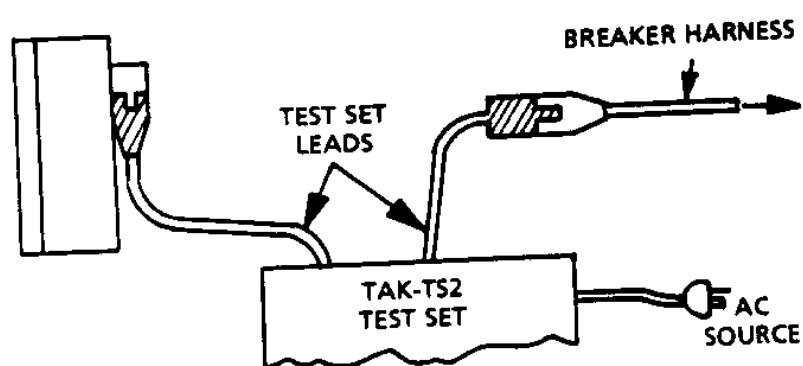

Fig. 4. Connection for Complete System test
3. The test set male connector lead need not be connected to the breaker harness for "Programmer Only" testing. However, the Fig. 4 connection should be used if "Complete System" tests are to be run also.
#### "Complete System" Test — Mode "B" (See Fig. 4)
Circuit breaker types TPSS, THSS have an interlock system that consists of a programmer and/or cover interlock. Frame sizes rated 1600 amperes or less have a combined programmer and cover interlock so that removal of either will prevent closure of the breaker. In this case, for a complete system check, remove the vent screen in the cover directly beneath the programmer. The screen is held in place by a compression fit between the screen and the molded slots in the cover and can be removed by pulling the screen from the slot. Removal of the screen will permit the test set cables to enter the circuit breaker for the connection shown in Figure 4. To satisfy the interlock mechanism, the cover must be replaced before testing. For breakers with an electrical operator accessory, both the middle and top covers must be replaced. At the completion of testing, be certain that the vent screen that was removed is reinstalled in the breaker cover.
Direct access to the programmer is obtained with the cover removed. Simply connect per Figure 4. It is not necessary to replace the breaker top cover for testing on breakers with an electrical operator accessory. The top cover must be replaced on breakers without the electrical operator accessory.
Breaker types THJS, THJSS, THKS, THKSS are provided with an interlock system wherein the breaker cannot be closed with the programmer removed. For a complete system check, it will, therefore, be necessary to remove the programmer, connect the test set cables as shown in Figure 4 and reinstall the programmer in the breaker, carefully routing the test set cables between the top of the programmer and the breaker current sensors.